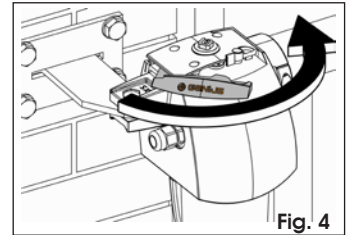

Fig. 4
2. Close the release lever (Fig.4).